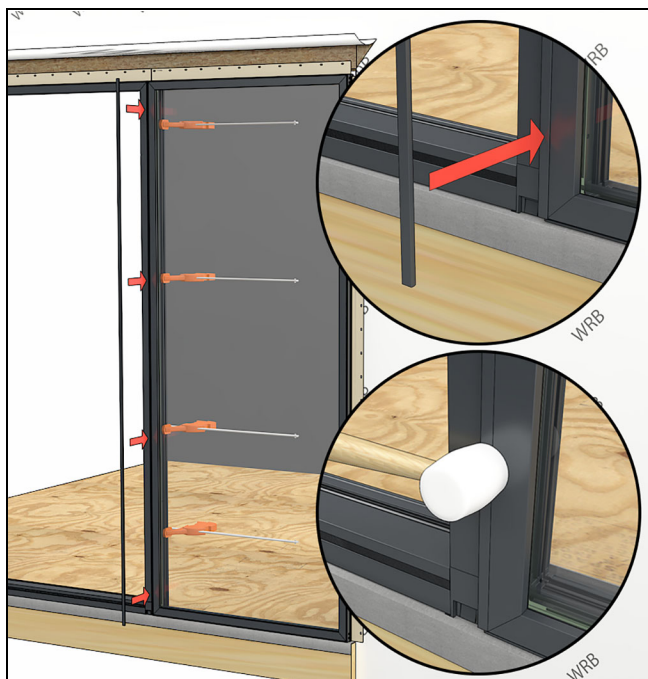

Figure 32
5. Install the **exterior** mull cap. Seat in place with a rubber mallet. See Figure 32.